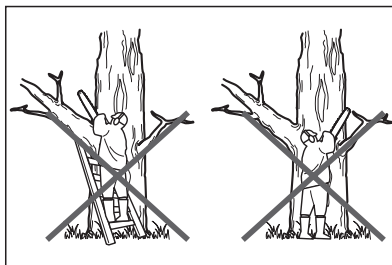

Fig. 7c
7. Reset the spiked bumper (8) at a low point when cutting thicker logs by pulling the product slightly backwards until the gripping teeth release, and reposition at lower level to continue sawing. Do not remove the product completely from the wood.
9. Do not operate the product with arms fully extended or attempt to saw areas which are difficult to reach, or on a ladder. Never use the product above shoulder height (Fig. 7c).